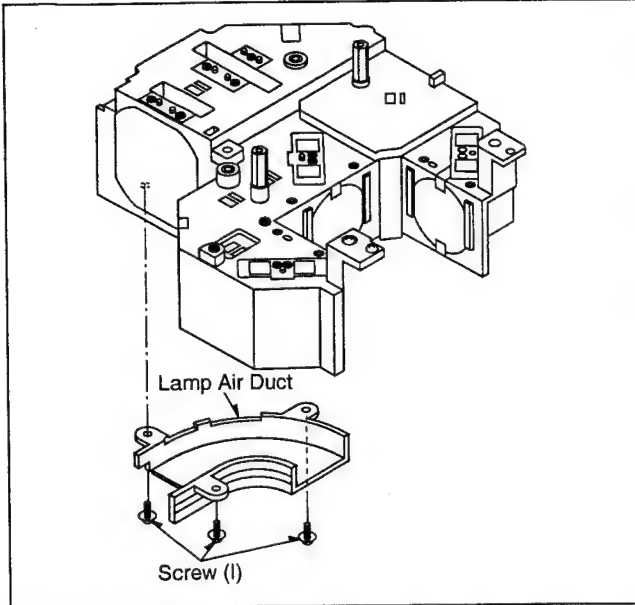

Fig. O10
1. Remove 3 screws (I) to remove the Lamp Air Duct as shown in Fig. O10.